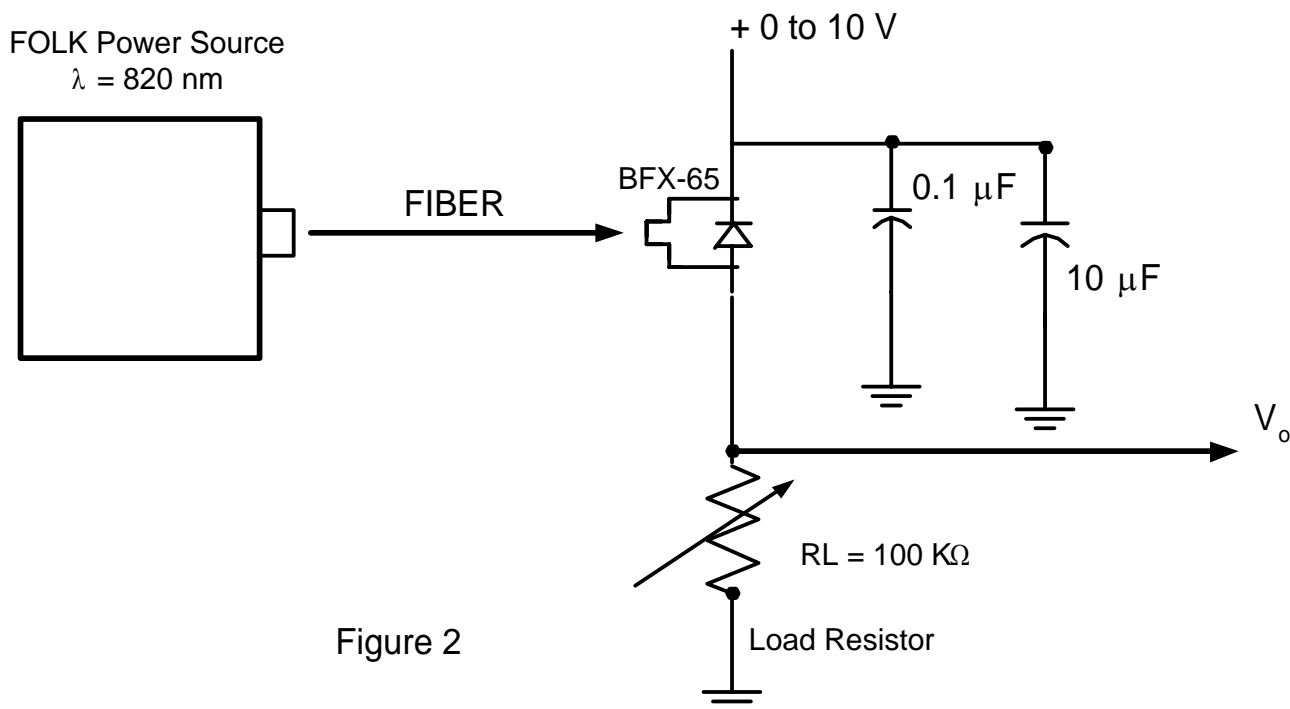

Figure 2
1. Make the connections as shown in Figure 2 below:-